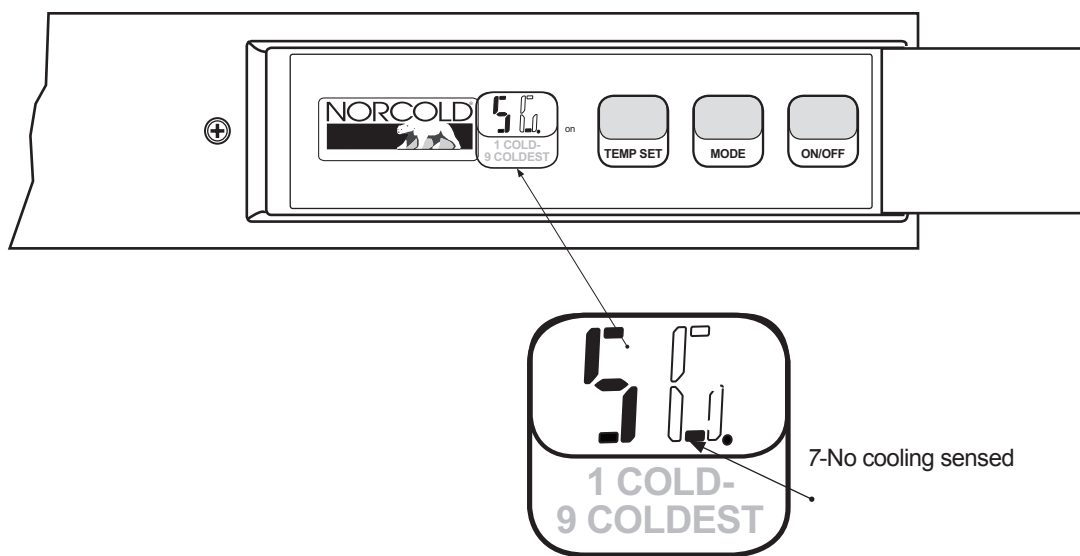

Figure 8-2. —Diagnostic screen 5, segment 7, no cooling sensed.
If fin temperature remains above 50 degrees Fahrenheit (10 degrees Celsius), the cooling system monitoring records the fault in non volatile memory. Figure 8-2 illustrates the fault segment that appears in diagnostic mode screen 5. See Section 9 for **Diagnosics** information.
- ↘ No cooling fault code stored in Diagnostics, screen 5. See Figure 8-2, page 63.